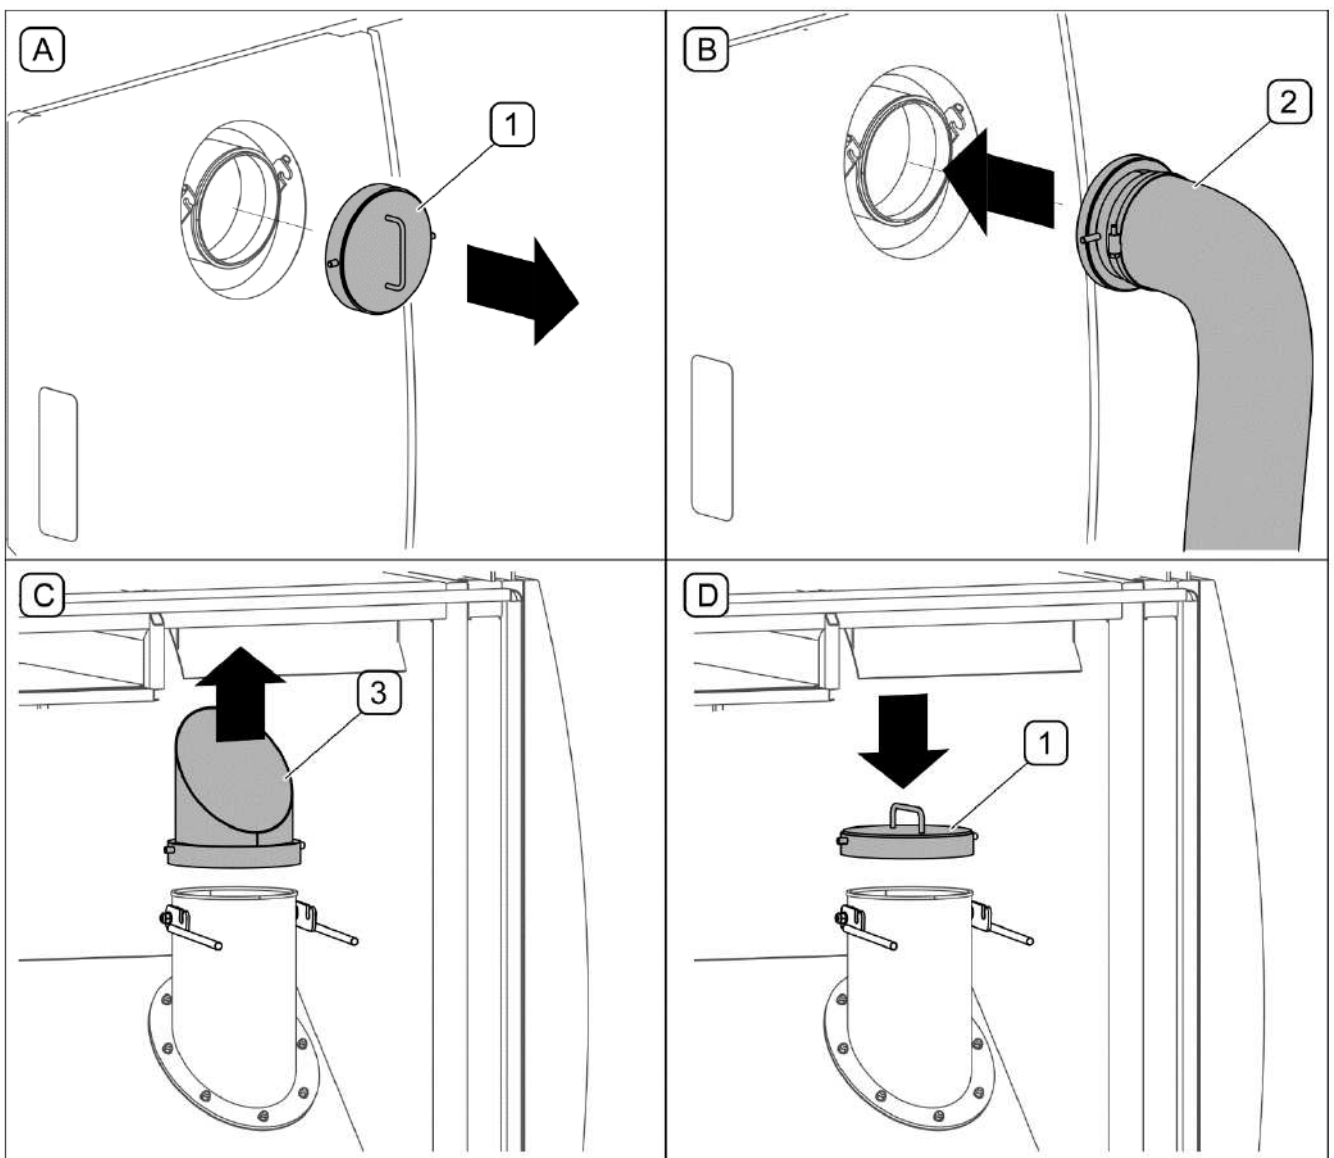

FIG. 4.18 Installing the attachment for collecting leaves
Optionally, ZMC2.0 sweeper can be equipped with side attachment for collecting leaves. Connect the attachment to the opening in the side wall of the tank after dismantling the closing cover (1). In order to increase suction force during operation of the sweeper with the attachment for collecting leaves, close the suction of the suction system by installing the closing cover (1) in place of stub pipe (3) inside the waste tank (FIG. 4.18)